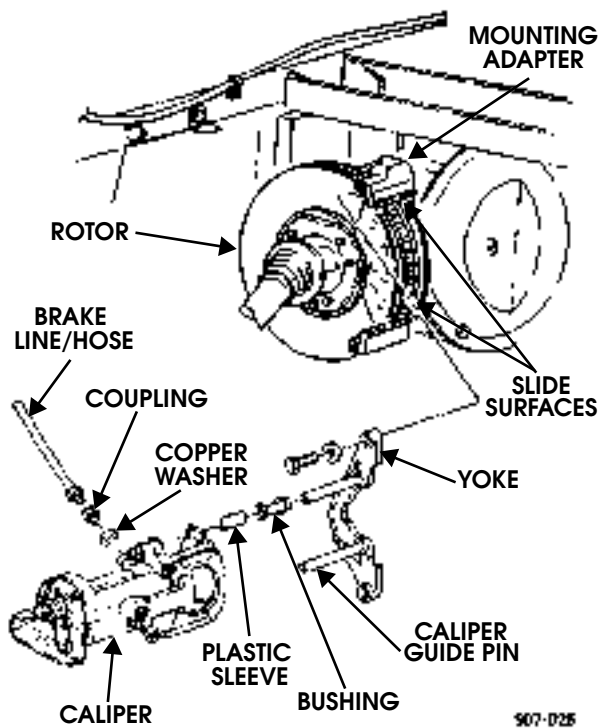

Figure 7-22: Rear Dual Brake Components
4. Disconnect brake line from coupling (Figure 7-22).
5. Clean cooling fins of rotor (Figure 7-22).